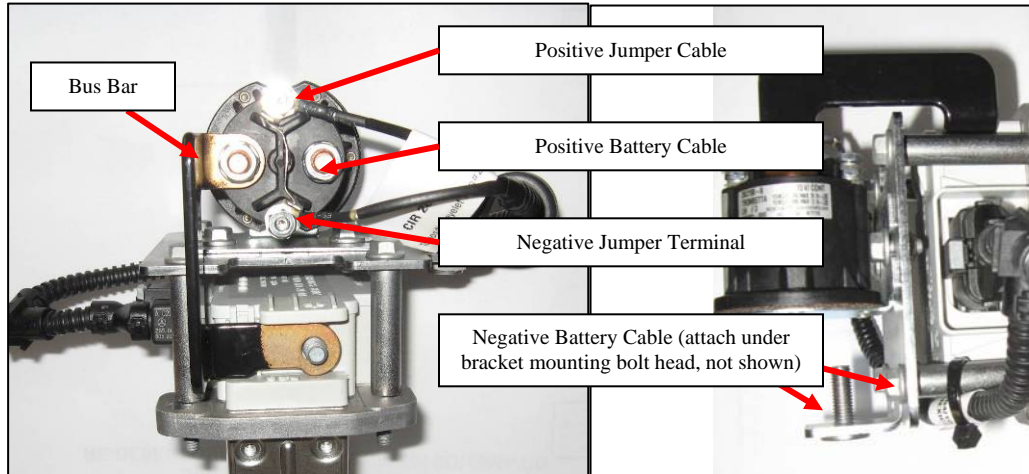

Figure 4 – Grid Heater Relay Wiring
10. Attach the relay signal wires from the electrical jumper harness to the relay terminals as shown in Figure 4. Torque fasteners to 2 N·m (15 lb·in.).
11. Connect the positive battery cable to the relay terminal as shown in Figure 4. Torque nut to 4 N·m (35 lb·in.).
12. Attach the bus bar (P/N A0005455802) from the terminal of the relay to the positive stud of the grid heater as shown in Figure 4. Torque relay nut to 4 N·m (35 lb·in.); torque grid heater nut to a maximum 25 N·m (18 lb·ft).